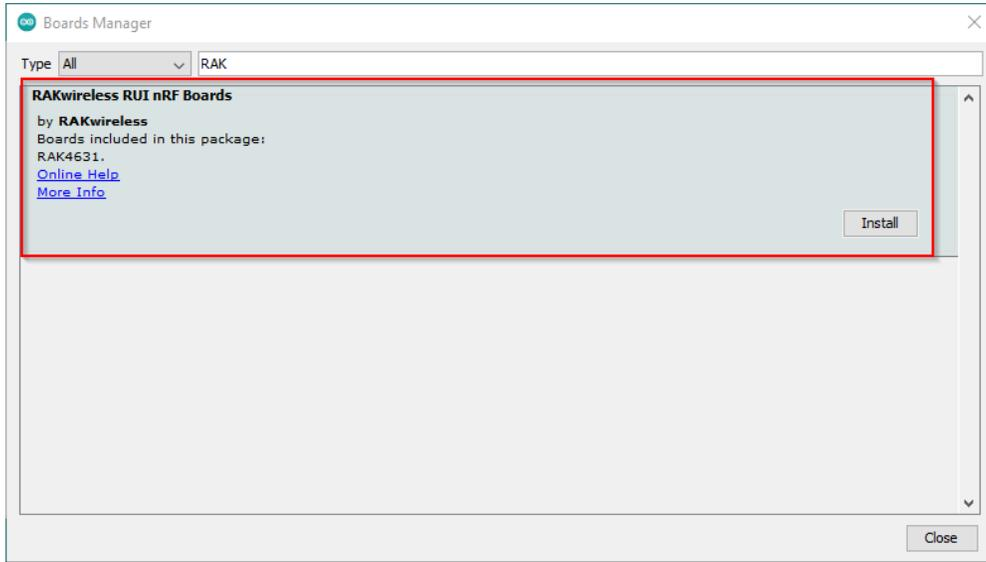

Figure 9: Installing RAKwireless RUI nRF boards
6. Write **RAK** in the search bar, as shown in **Figure 9**. This will show the available RAKwireless module boards that you can add to your Arduino Board list. Select and install the latest version of the **RAKwireless RUI nRF Boards**.